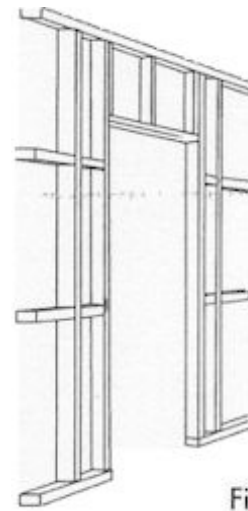

Fig 15
15. Nail jack studs into position (See Fig 15).